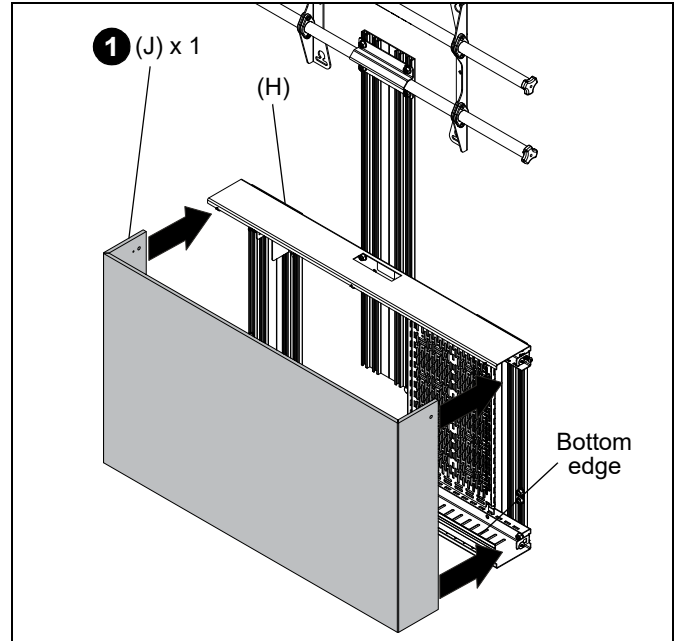

Figure 15
1. Attach the large cover (J) to the outside of the storage box (H). (See Figure 15)